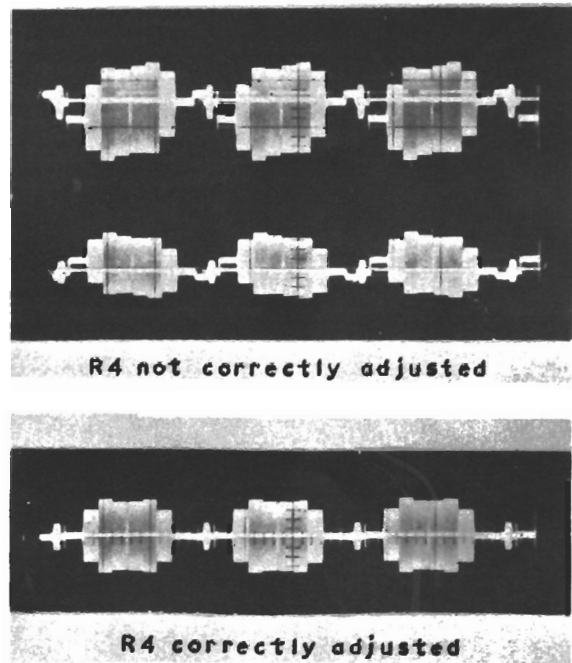

Fig. 3 Waveforms to Illustrate Correct Adjustment of 'L.F. Bal.' Control
Test Schedule (Fig. 3)
6. Adjust the low-frequency balance control R4, in the EQ5/517, to remove any low-frequency components, see Fig. 3.